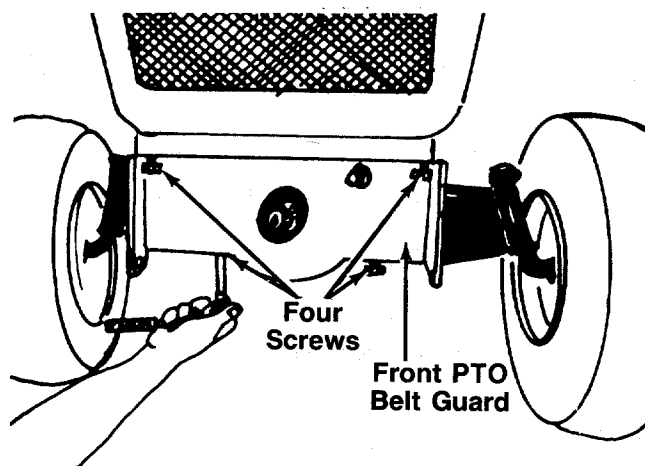

FIGURE 27.
1. Take off the front PTO belt guard assembly by removing four hex screws. See figure 27.